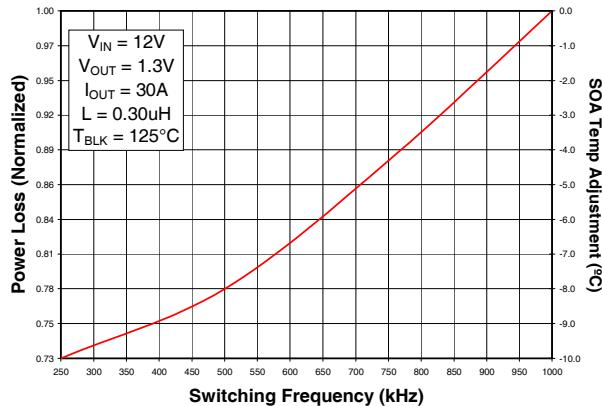

Fig. 5: Normalized Power Loss vs. Frequency
- (Fig. 5) Normalized power loss for frequency ≈ 0.955
- (Fig. 5) Normalized SOA Temperature for frequency $\approx -1.8^\circ\text{C}$